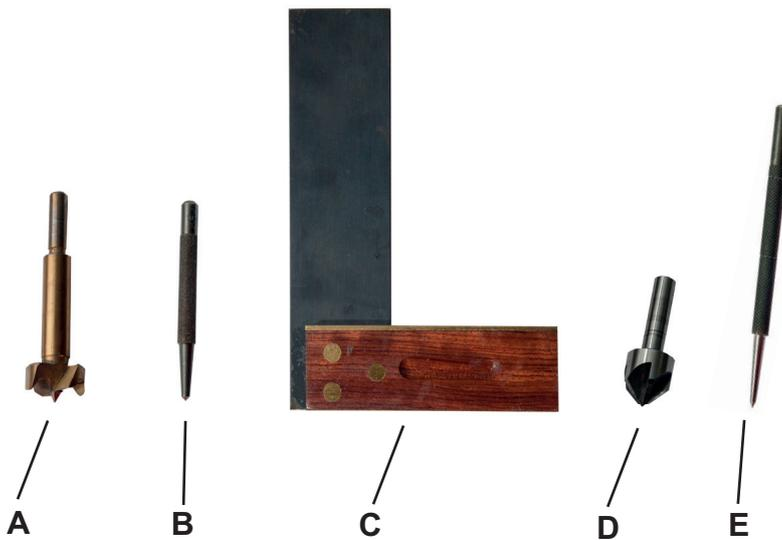

Fig. 7
5 Fig. 7 shows five tools labelled A, B, C, D and E.
- (a) (i) Use Fig. 7 to complete Table 4.